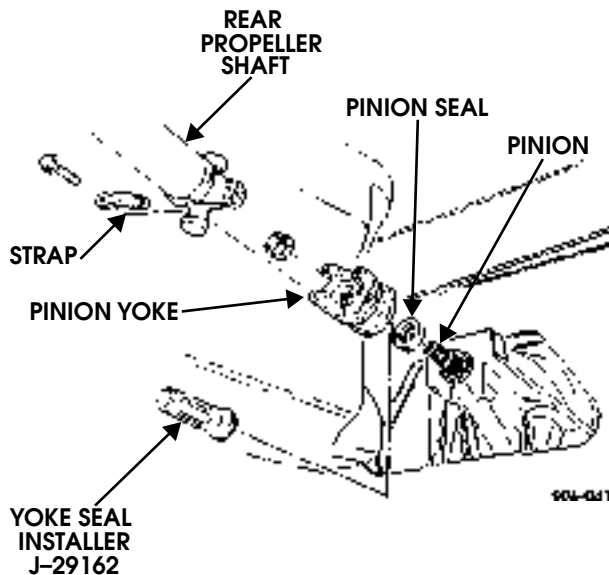

Figure 9-55: Pinion Seal Replacement
2. Remove four bolts, two straps, and rear propeller shaft from pinion yoke (Figure 9-55).
1. Using yoke seal installer J-29162, install pinion seal on pinion (Figure 9-55).